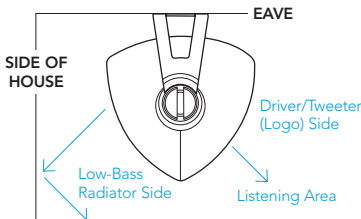
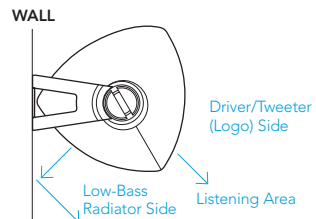

Figure 3
Figure 4
- One pair of AW speakers will cover approximately 200–400 square feet of listening area at moderately loud levels. Try to point the speakers directly at the listening area to maximize the output level. Mounting the speakers horizontally under the roof eaves is a good location (especially if it is on the same level as the listening area). Point the driver/tweeter/logo side down towards the listening area (see Figure 3 and Figure 4).
- The side of the speaker with the low-bass radiator can be placed facing an adjacent surface, such as a wall, the underside of an eave, the ceiling, or the ground, as long as there are at least a couple of inches of clearance (see Figure 3 and Figure 4). Positioning the low-bass radiator near a large surface will provide louder bass. For less bass, move the speaker farther away from the wall, ceiling, eave or ground.